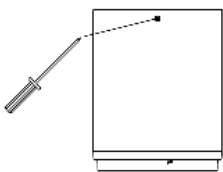

Fig. 1
1. Loosen the screws on both sides of the luminaire and twist to remove the mounting plate. (Fig. 1)